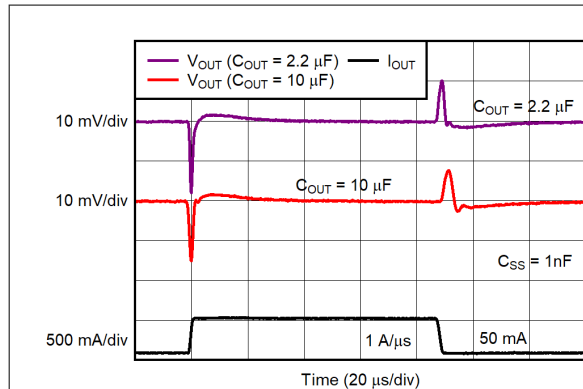

图 7-3. Output Load Transient Response
2. Select  $C_{SS}$  to be the highest capacitance while still achieving the desired start-up time. 表 7-3 gives examples of this calculation. 图 7-3 gives examples of turn-on response with different  $C_{SS}$  capacitor value.